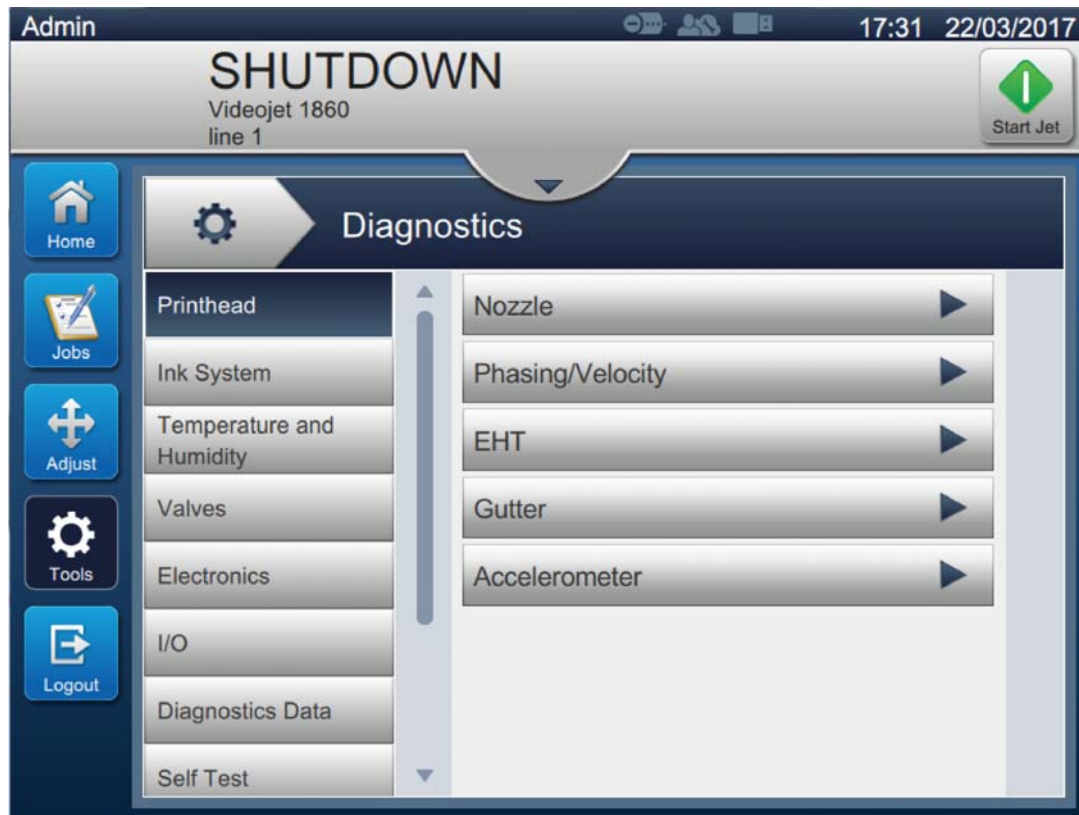

Figure 6-23: Diagnostics
1. Touch the  button from the Tools screen. The Diagnostics screen opens as shown in the Figure 6-23.